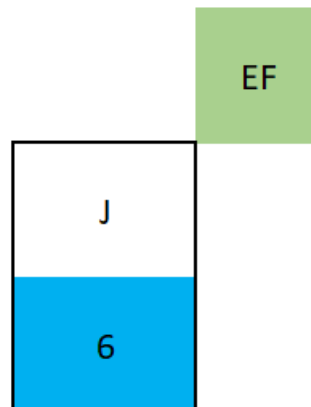

Figure 5. The earliest start (ES) start time is indicated outside the top left corner of a node
The nodes also indicate the earliest time an activity can finish, known as the early finish (EF) time. The early finish time is placed outside the top-right corner of the node; see Figure 5.